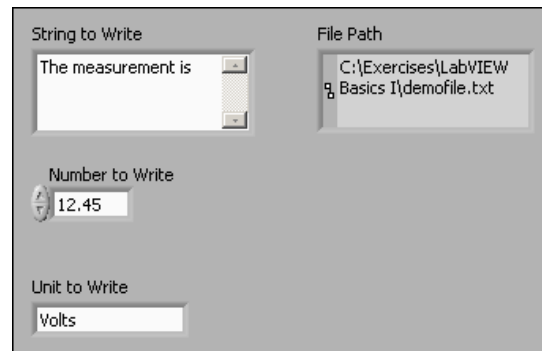

Figure 9.15
1. Open a blank VI and build the front panel shown in Figure 9.15.